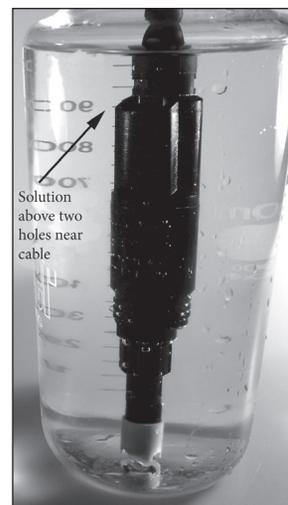

Figure 8, solution above two holes near cable.
(figure 8). Ensure the entire conductivity sensor is submerged in the solution or the instrument will read approximately half the expected value. Gently move the probe up and down to remove any air bubbles from the conductivity sensor.
1. Place the sensor into the solution. The solution must cover the holes of the conductivity sensor that are closest to the cable (figure 8). Ensure the entire conductivity sensor is submerged in the solution or the instrument will read approximately half the expected value. Gently move the probe up and down to remove any air bubbles from the conductivity sensor.